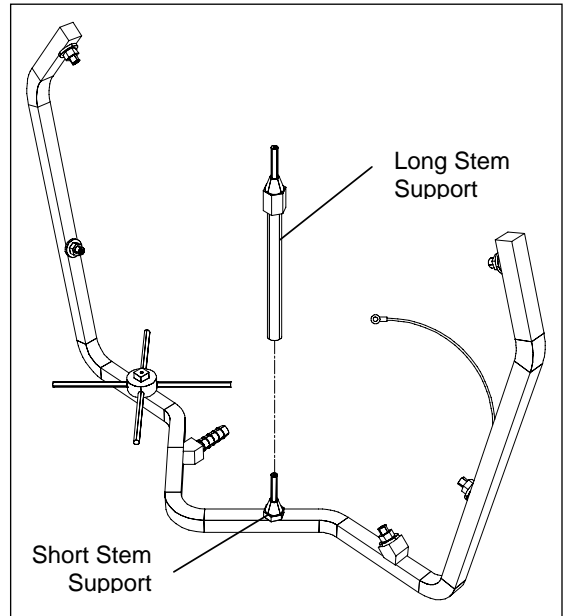

Figure 2
1. To clean guns not mentioned here, use the long or short stem supports as needed (see Fig. 2). For questions or adapter kits contact your paint gun washer distributor.